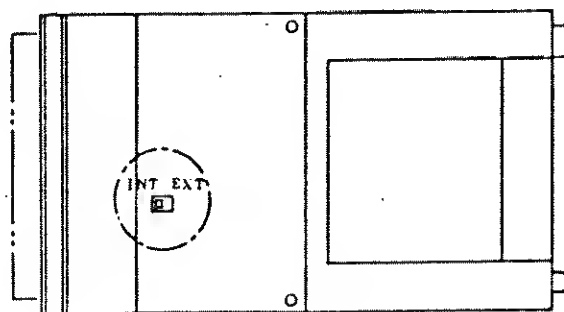

Figure 2-12-2
2. Set the slide switch on the printed circuit board to "EXT". See Fig. 2-12-2.